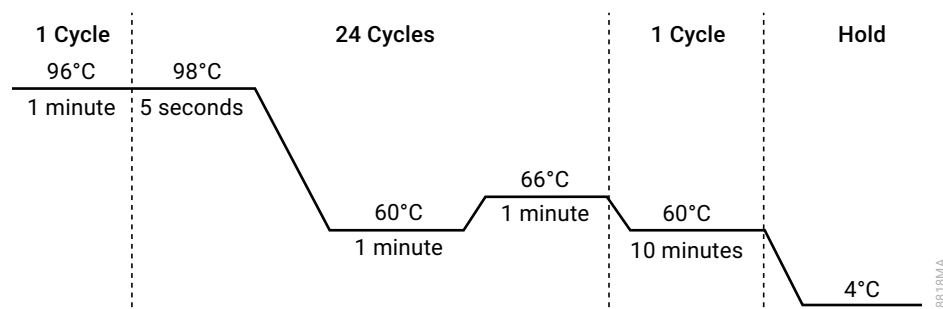

Figure 5. Thermal cycling protocol for the ProFlex® PCR System.
2. Select and run the protocol provided below and in Figure 5. The total cycling time is approximately 75 minutes.